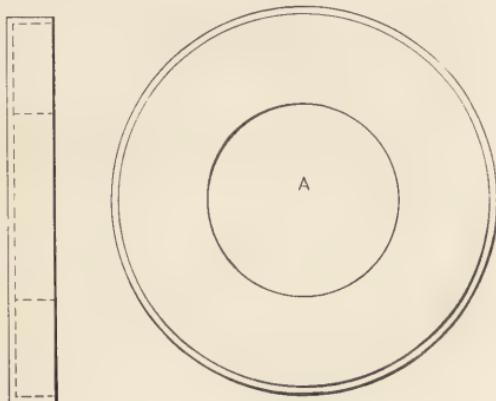
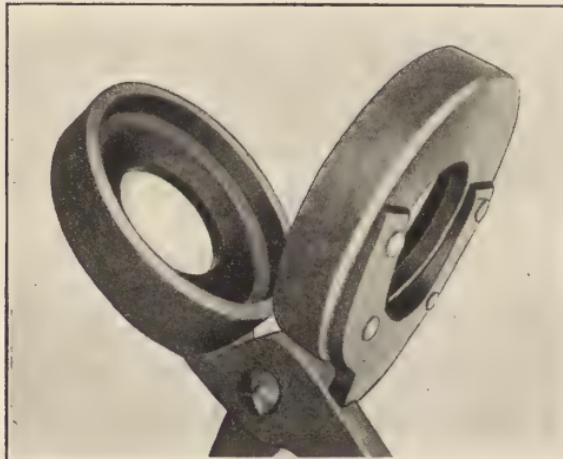

Fig. 20. Cap used in Hardening Threading Die.
Fig. 21. Tongs used for Holding Threading Die.
**Threading Die.**—The No. 12 threading die shown in Fig. 19 has been in constant use for over two years up to time of photographing. It has threaded thousands of pieces of one-inch round cast iron parts, and like the other tools mentioned, is as good as new, and was never drawn to a color. It was heated in charcoal to heat indicated by No. 4 on the heat chart. A machine steel cap (Fig. 20) was placed on each side of the die and then all three pieces held together in tongs, shown in Fig. 21, and dipped in the salt water just long enough to harden the teeth of the die, which were exposed to the water through the holes *A*, in the center of the caps. The die was then dropped in oil and allowed to remain until cold. It was then cleaned up